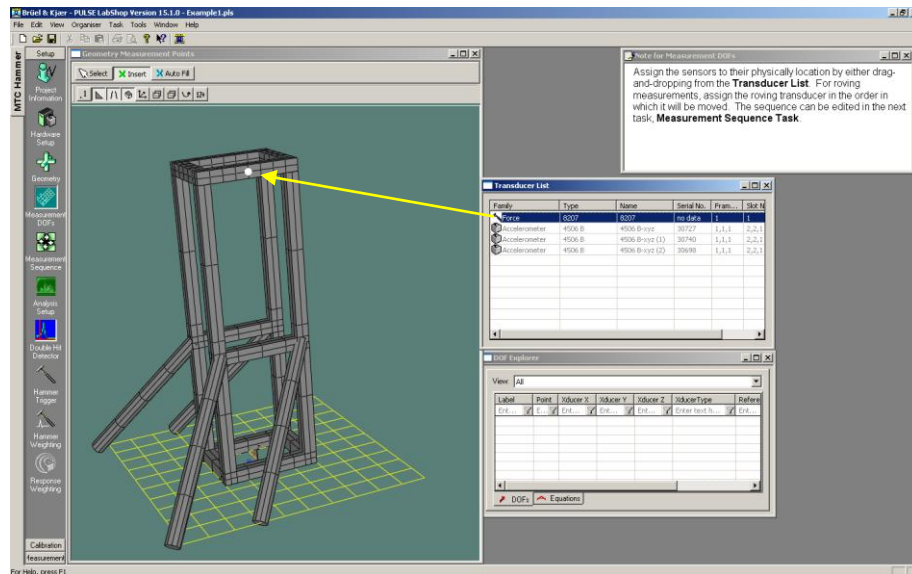

Figure 3: Select the transducer from the transducer list then place the white dot at a cross in the mesh.
- To add a degree of freedom, simply click on the desired transducer in the transducer list and then click on the point (a vertex in the mesh) where you want that transducer to go. (Figure 3)